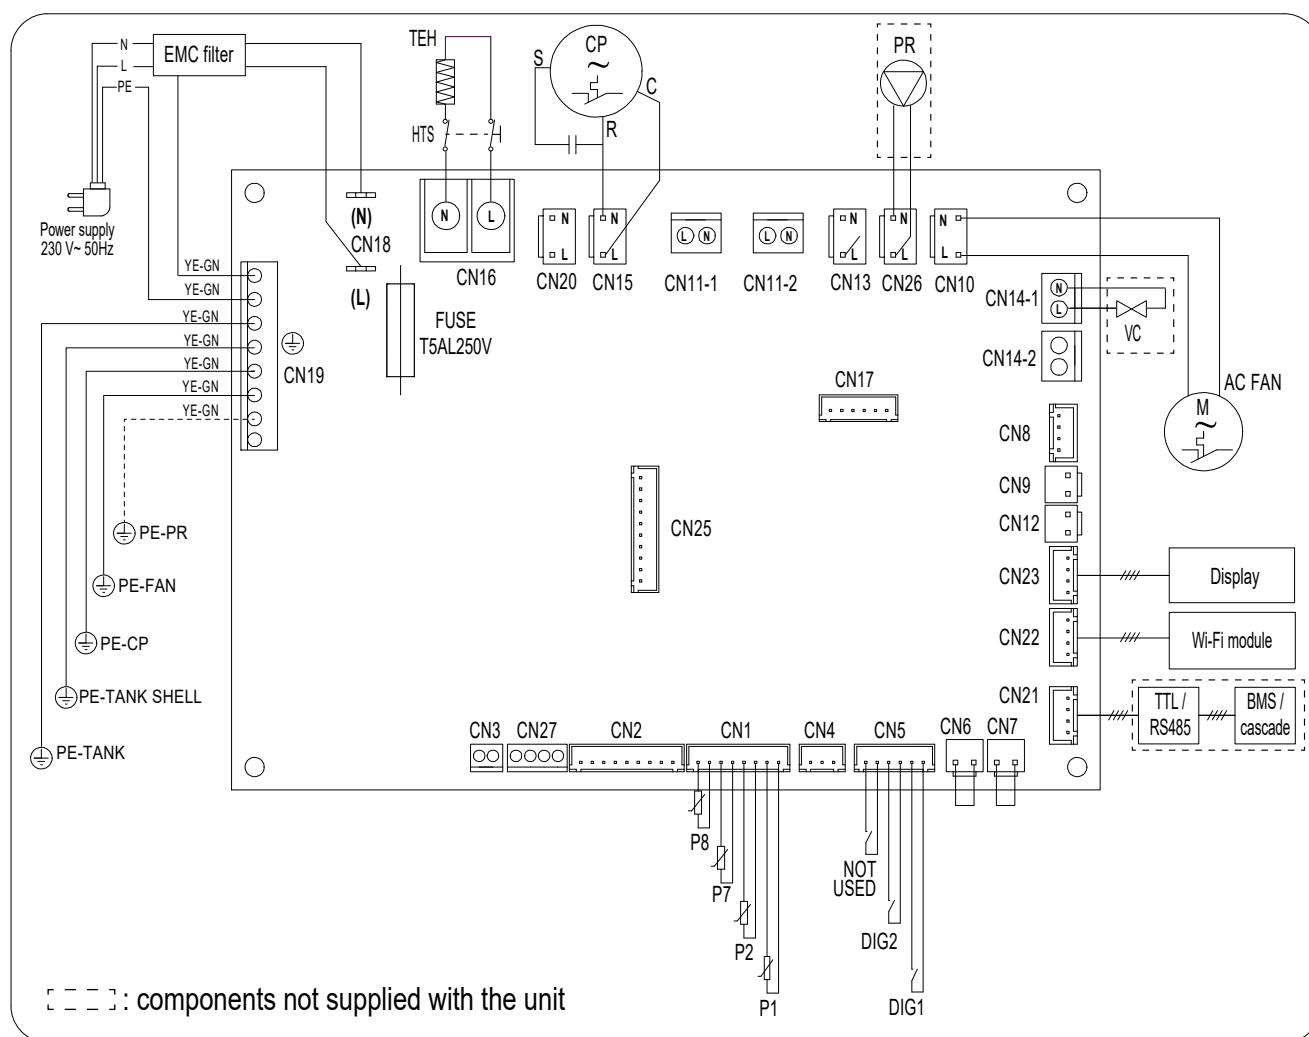

fig. 70 - Wiring diagram of the equipment
- 1) The recirculation pump (part.16) must be connected to terminal CN26 of the master motherboard (ref. "fig. 70 - Wiring diagram of the equipment" on page 118).
- 2) Fit a normally open solenoid valve (part. 19) for each unit in the cascade. The valve must be connected to terminal CN14-1 (ref. "fig. 70 - Wiring diagram of the equipment" on page 118) of the mother board of each unit.
- 2) Fit a normally open solenoid valve (part. 19) for each unit in the cascade. The valve must be connected to terminal CN14-1 (ref. "fig. 70 - Wiring diagram of the equipment" on page 1184) of the mother board of each unit.